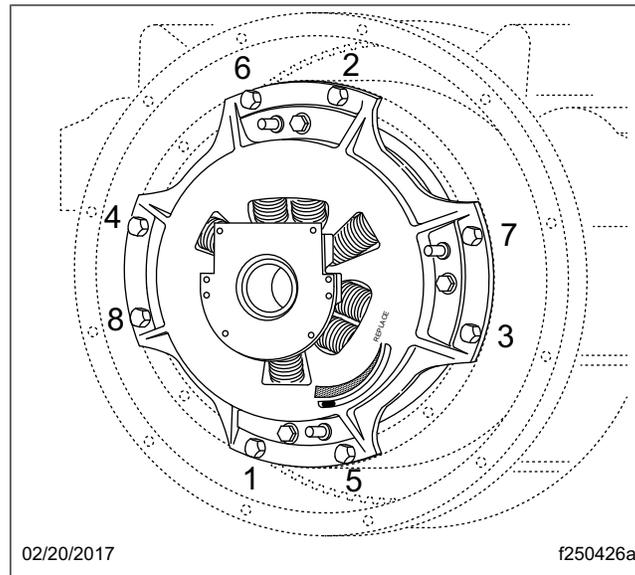

Fig. 32, Tightening Sequence
7. Progressively tighten the mounting bolts in a crisscross pattern starting with the lower left bolt. Torque to 45 lbf·ft (61 N·m). See Fig. 32.